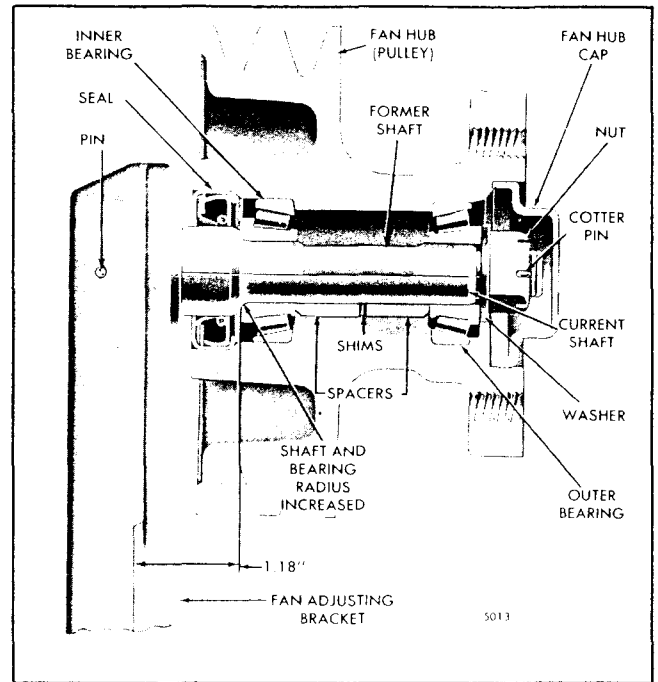

Fig. 6 - Shaft Type Fan Hub Assembly (6V Engine)
2. Remove the hub retaining cotter pin, nut and washer (Fig. 6) or the bolt and special washer
The fan hub assembly illustrated in Fig. 6 has been revised. The revisions consist of an increase in the bearing inner race and shaft bearing radii, a hardened hub retaining nut and washer and the addition of spacers and shims on the shaft between the bearings. This type fan hub assembly should be rebuilt with the current parts, especially where the former undercut shaft is used. The current spacers and shims cannot be used with the former shaft.
To replace the shaft, remove the groove pin and press the shaft from the adjusting bracket. Press the new shaft in the bracket to the dimension shown in Fig. 6. Then drill the shaft, using the hole in the bracket as a guide, and install a groove pin.